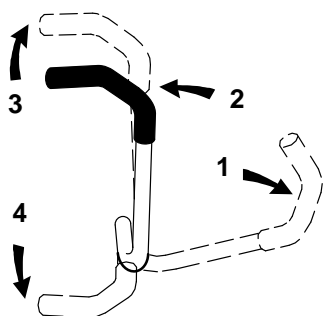

Figure 8
3. To go forward, slowly push the motion control levers forward (Fig. 8).
To go straight, apply equal pressure to both motion control levers (Fig. 8).
To turn, move the motion control lever toward neutral in the direction you want to turn (Fig. 8).
2. To go backward, slowly pull the motion control levers rearward (Fig. 8).
To turn, release pressure on the motion control lever toward the direction you want to turn (Fig. 8).